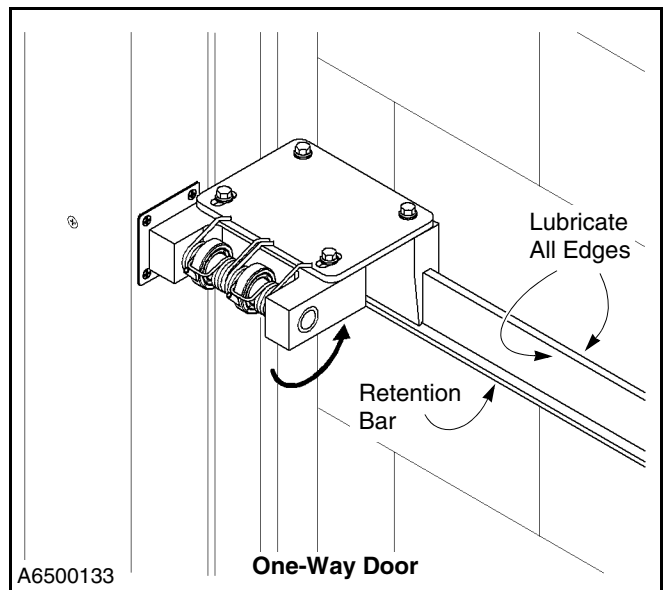

Figure 46
13. Using the synthetic lubricant that was used earlier on the door seals, apply a thin film of lubricant to the upper edges of both retention bars to ensure the retention block slides smoothly. (See Figure 46.)